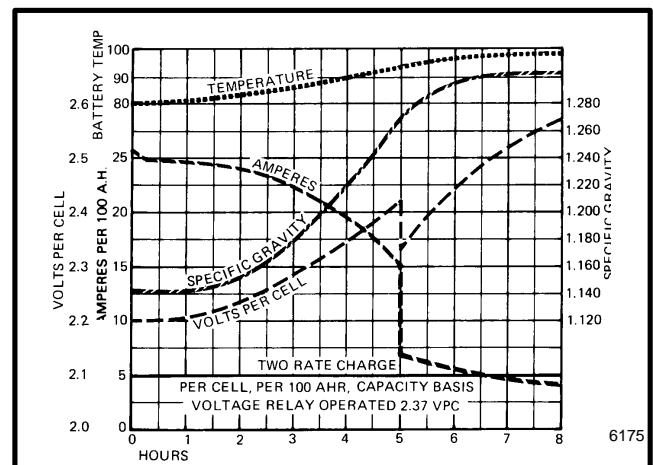

FIGURE 22. TWO-RATE CHARGING CYCLE
3. **TWO-RATE CHARGE.** This method also uses a high charging rate at the beginning followed by a lower rate. Two resistors control the charging rate. One resistor controls the charging rate at the beginning of the cycle and a second resistor reduces the charging rate when the voltage in the cells reach 2.37 volts. A relay automatically controls the second resistor. The two-rate charging cycle is shown in FIGURE 22.